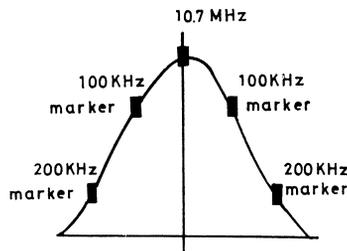

Fig. 14
4. Set the sweep marker generator output power to medium and adjust the IF transformers T1, T101, T102 and T103 so that the wave on the picture tube becomes like that in Fig. 14.
- \* The 100K Hz and 200K Hz markers should be in symmetry in Fig. 14.